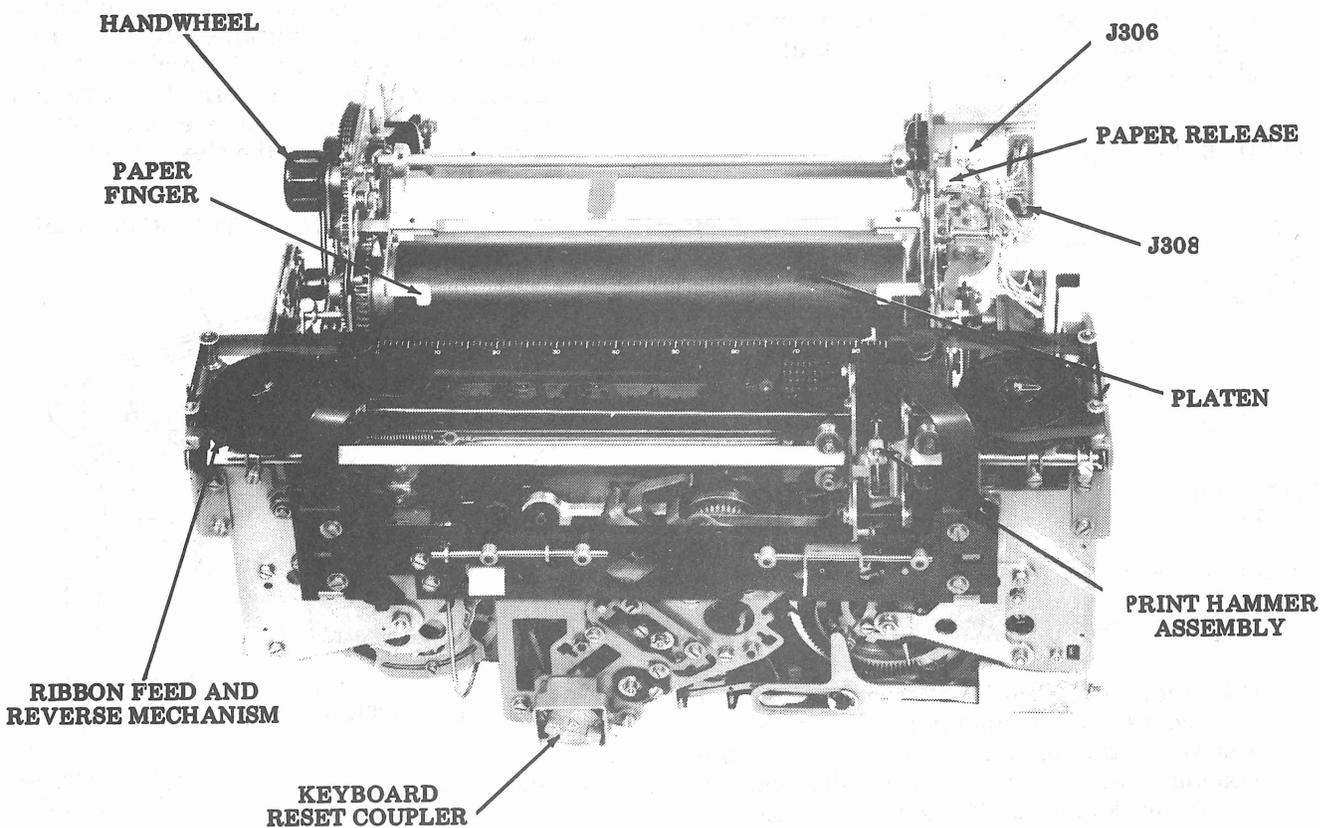

Figure 4 - 37 Typing Unit
2.06 Unpack the typing unit (Figure 4) from its carton and remove all packing material. The typing unit may be lifted by
4.02 Locate the selector clutch on the right end of the typing unit main shaft and the keyboard reset coupler (Figure 4) at the lower center front. Facing the right end of the typing unit, rotate the selector clutch drum in a counter-clockwise direction until the lugs on the keyboard reset coupler are vertical.
4.03 Viewing the keyboard reset mechanism from the right side of the keyboard, rotate the mechanical reset shaft in a clockwise direction until the open slots in the plastic universal joint member are vertical to receive the lugs on the typing unit (Figure 4) keyboard reset coupler.